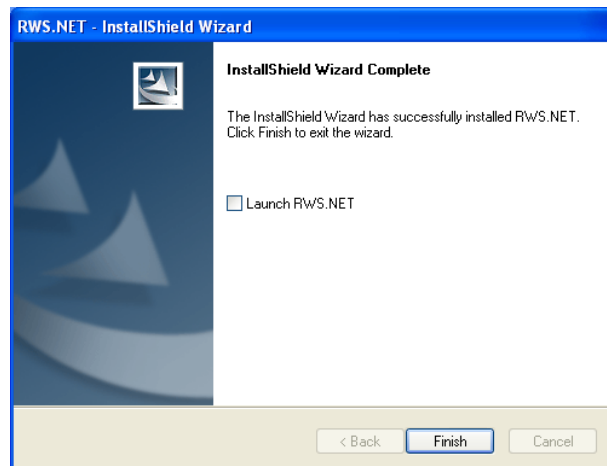

Figure B-14: InstallShield Wizard Complete
6. Click **Install** and wait until the *InstallShield Wizard Complete* window indicates the process is complete (Figure B-14).
7. Uncheck Launch RWS.NET (Figure B-14), and then click **Finish** to exit the installation.